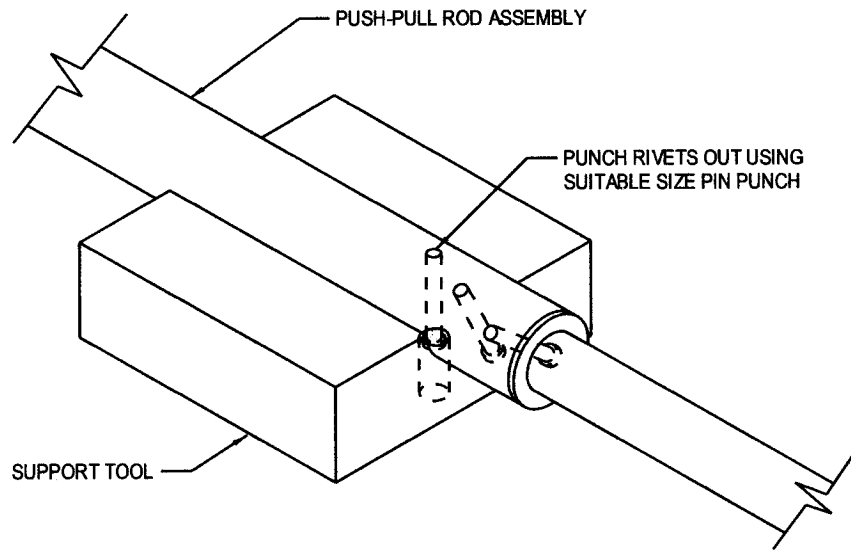

Figure 3. Rivet Removal
- 6.4.1.3 Place the push-pull rod onto the support tool with the lower rivet tail in the relief hole and support the opposite end of the rod. (This is the same procedure used to remove the rivets from the lower fitting. Refer to Figure 3.)